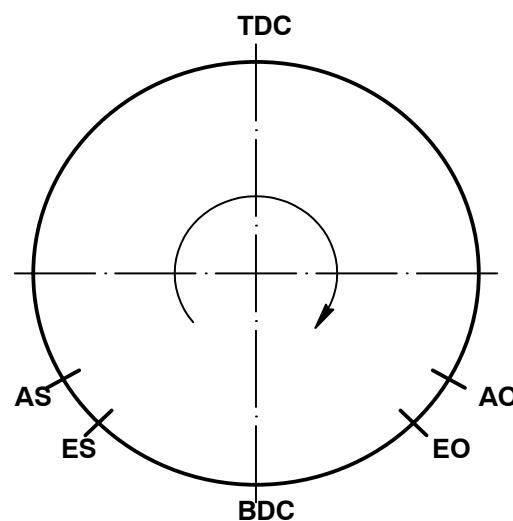

Fig. 1: Schematic of Engine Operation – Diesel Mode
- The piston is at BDC (Fig. 1).